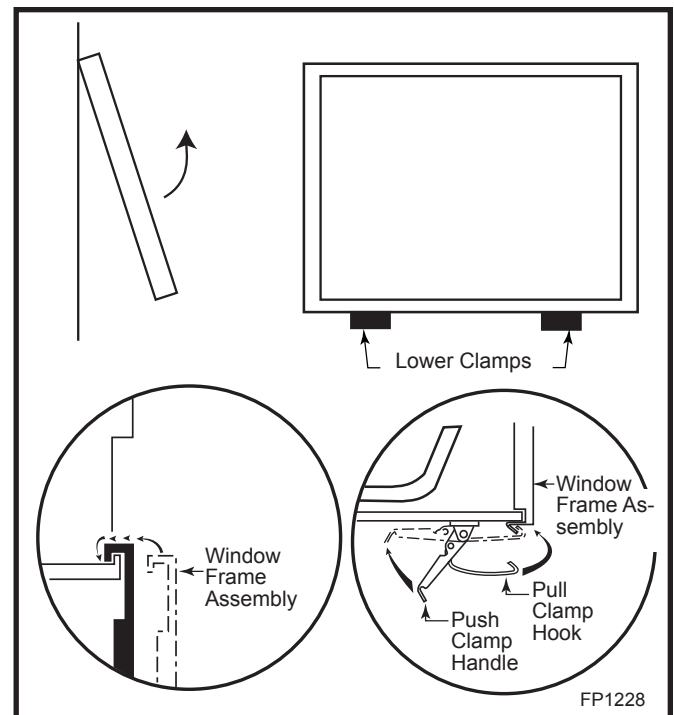

Fig. 36 Window frame assembly removal.
6. Release the two clamps securing the lower edge of the frame by pulling down on the handles. (Fig. 36)